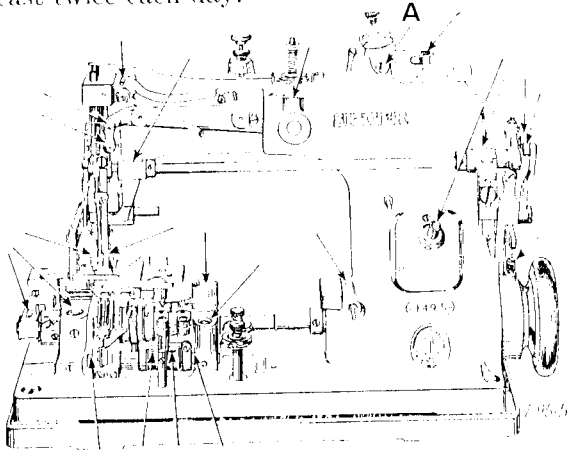
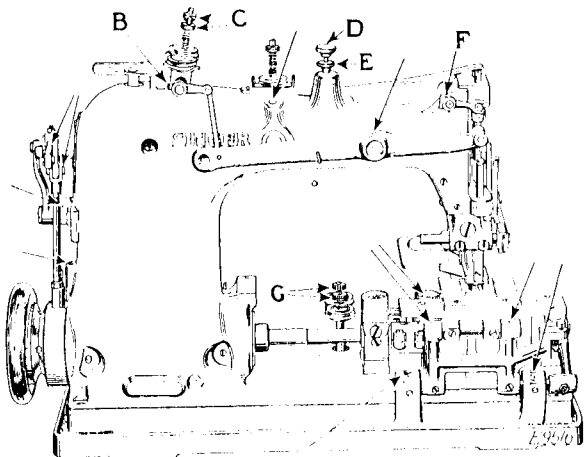
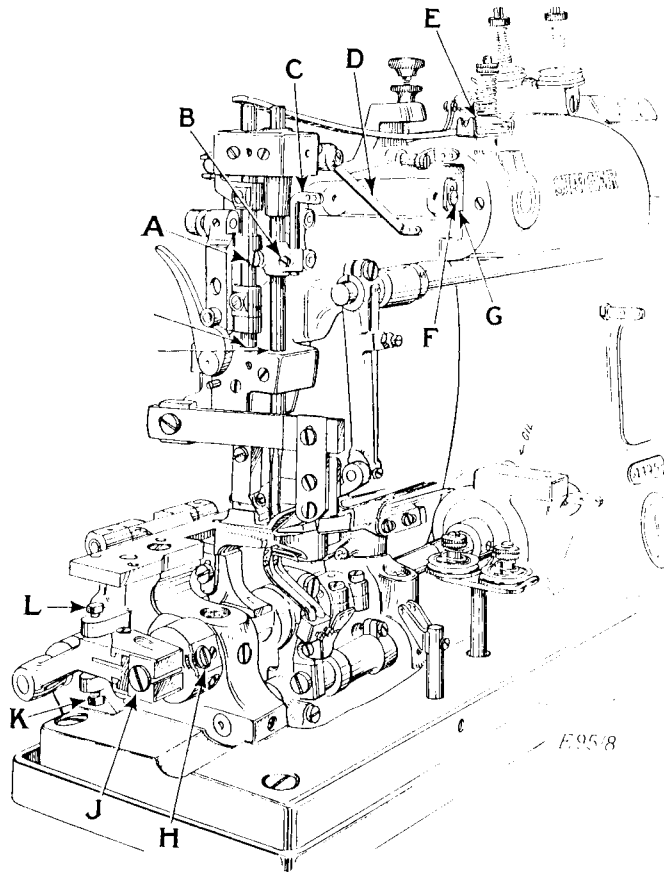

FIG. 2. OILING POINTS AT FRONT OF MACHINE
FIG. 3. OILING POINTS AT REAR OF MACHINE
FIG. 6. ADJUSTMENTS AND OILING POINTS ON THE MACHINE
When the machine is received from the factory, it should be thoroughly cleaned and oiled. Apply oil to all places indicated by arrows in Figs. 2, 3 and 6, and all other parts which are in movable contact.
The length of stitch is regulated by the large screw (H, Fig. 6) in the feed eccentric near the left end of the rotary shaft. To lengthen the stitch, turn the adjusting screw (H) over to the right. To shorten the stitch, turn the adjusting screw (H) over to the left.
The pressure of the presser foot on the material is regulated by means of the thumb screw (D, Fig. 3) at the top of the machine. To increase the pressure, loosen the lock nut (E, Fig. 3) and turn the thumb screw (D) downwardly. To decrease the pressure, turn the thumb screw upwardly. When the desired amount of pressure is obtained, securely tighten the lock nut (E).
The tension on the needle threads is regulated by the thumb nuts (C, Fig. 3) above the tension discs at the top of the machine. To increase the tension, turn these thumb nuts over to the right. To decrease the tension, turn these thumb nuts over to the left. The needle threads require sufficient tension to set the stitch properly in the goods.
The tension on the looper threads is regulated by the thumb nuts (G, Fig. 3) at the base of the machine. The tension on the looper threads should be very light.
At this position, the eyes of the needles should be about $\frac{1}{8}$ inch below the points of the loopers so that the eyes of the needles and eyes of the loopers will be in perfect alignment when they pass each other on the loop taking stroke. In case the needle bar is not set in the correct position, loosen the set screw (A, Fig. 6) in the needle bar connecting stud and move the needle bar up or down, as required, then securely tighten the set screw (A).
The needle thread take-up (C, Fig. 6) is usually set so that the bottom of the take-up is flush with the bottom of its holder. The take-up can be raised or lowered after loosening the screw (B, Fig. 6).
The slack thread regulator (D, Fig. 6) should be set so that when the loopers are shedding the needle loops on their backward stroke, the thread will not snap off the points of the loopers nor be drawn through the tension discs. To set the slack thread regulator, it is best to start with the regulator in a low position and then continue raising the regulator until the loopers back out of the needle loops with a little tension on the thread. To make this adjustment, loosen the clamping screw (F, Fig. 3) and raise or lower the slack thread regulator (D), as may be required, then securely tighten the clamping screw (F).
The automatic thread nipper (E, Fig. 6) should be adjusted to lock the threads as the loopers shed the needle threads on their backward stroke and to release the threads during the forward stroke of the loopers and before the loopers tighten the needle threads.
To adjust the automatic thread nipper (E) to release the thread earlier, loosen the screw (F, Fig. 6) and raise the nipper releasing cam (G, Fig. 6). To release the thread later, lower the nipper cam (G). When the automatic thread nipper is correctly adjusted, securely tighten the screw (F).
To centre the feed dog in the slots in the throat plate, loosen the upper adjusting screw (L, Fig. 6) and tighten the lower adjusting screw (K, Fig. 6), or vice versa, as may be required.
The function of the needle thread tension releaser is to release the tension on the needle threads when the presser foot is raised. In case the tension releaser does not properly release the threads, loosen the set screw (B, Fig. 3) and turn the shaft (A, Fig. 2) over to the left until the correct adjustment is obtained, then securely tighten the set screw (B).